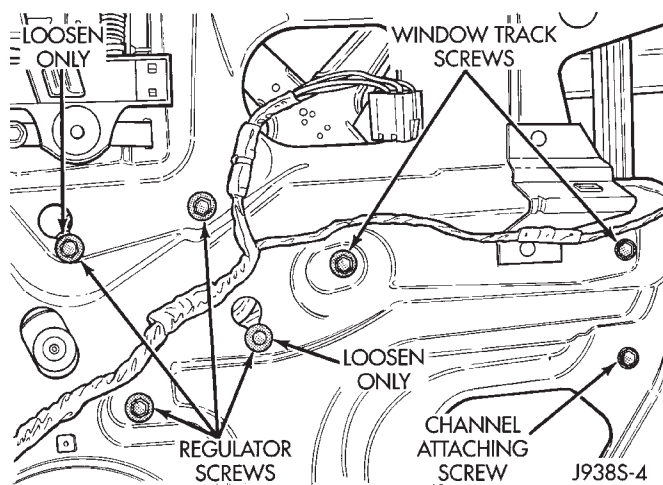

Fig. 8 Window Regulator Removal
- (10) Slide glass forward to remove from nuts.
- (11) Pull the glass to the full up position and tape the glass to the door.
- (12) Unplug the wire harness connector from the window regulator.
- (13) Remove 4 window regulator screws (Fig. 8).
- (14) Loosen the last 2 window track screws (Fig. 8).
- (15) Remove the window regulator.